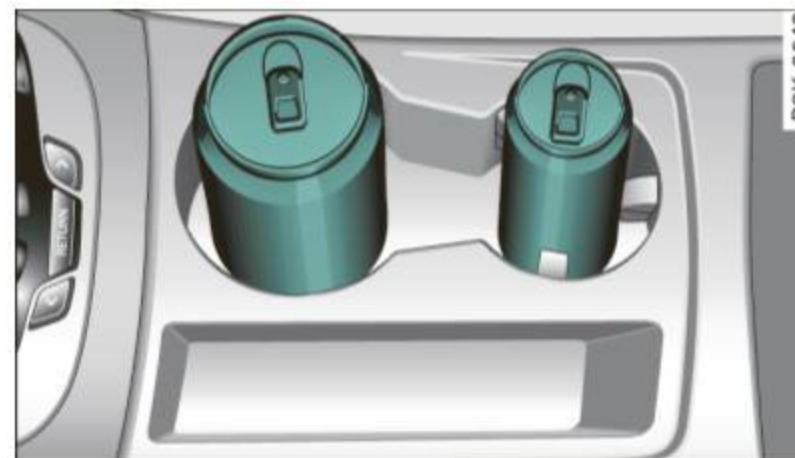

Fig. 90 Center console: Front beverage holders
- You can accommodate two beverages in this storage ⇒ fig. 90.